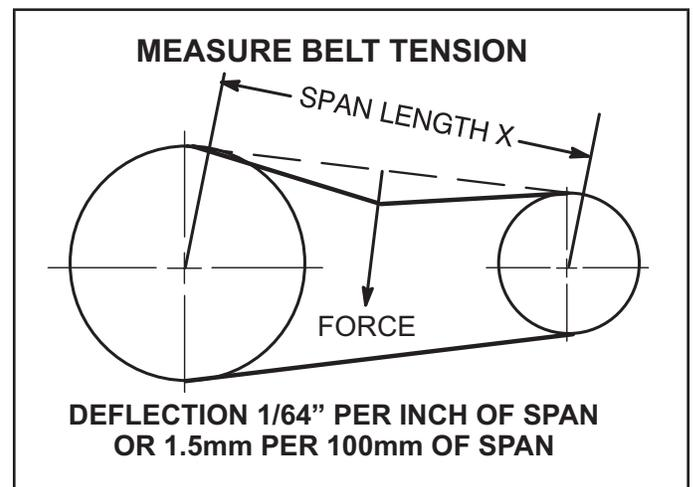

FIGURE 20
- 1 - Measure span length X. See FIGURE 20.
- 2 - Apply perpendicular force to center of span (X) with enough pressure to deflect belt  $1/64$ " for every inch of span length or 1.5mm per 100mm of span length.